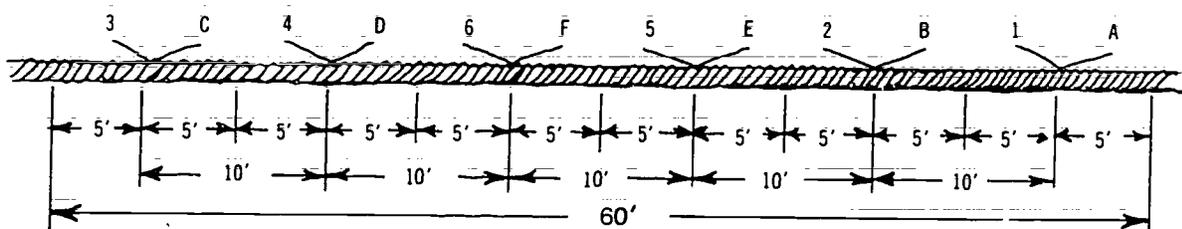

Figure 7-52. Splicing Wire Rope - Step 5
- Step 5. Unlay Strand 5 back to the 5' mark and lay Strand E in its place. Then unlay Strand F back to the 5' mark (in the opposite rope) and lay Strand 6 in its place. The splice should now be laid out as in Figure 7-52.